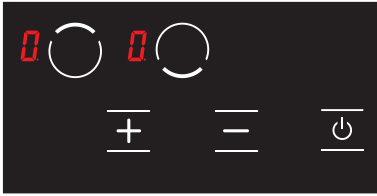

Figure 19
3. The **H** icon is displayed on all displays. (see Fig. 19) The **H** and **L** icons are displayed alternatively if any hob is hot.